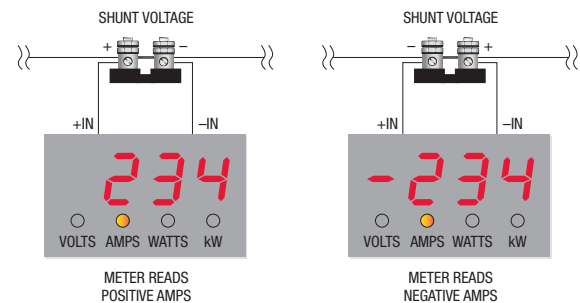

Figure 2. Relationship between shunt voltage polarity and meter reading
- Shunt Polarity:** While the external current shunt has no intrinsic 'polarity', the way in which it is connected into the circuit being measured will influence the polarity of current as measured by the meter. The relationship between current direction and meter reading is shown in figure 2.